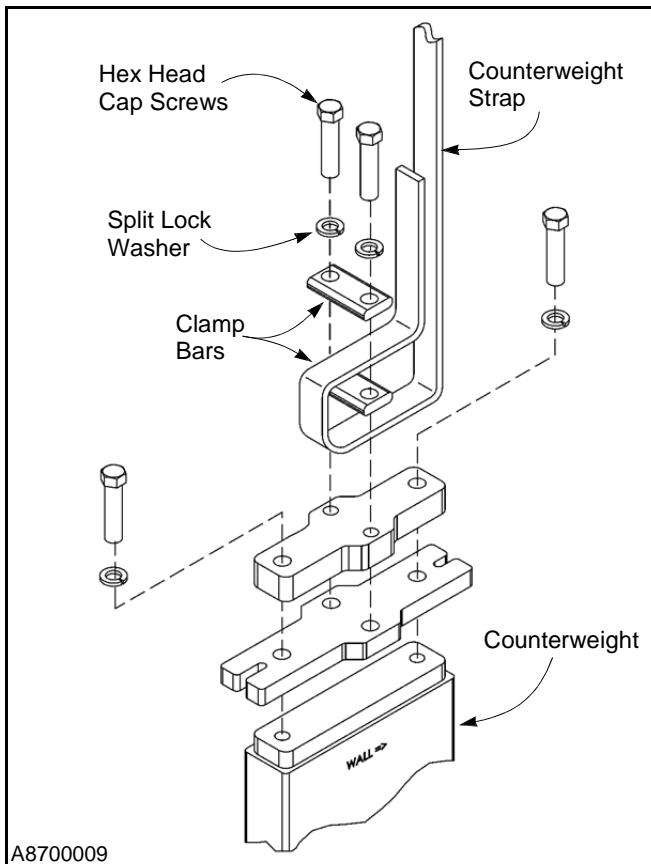

Figure 49
13. Attach the new strap to the counterweight by routing the strap through the clamp bars in the same manner as the old strap. Tighten the hex screws to clamp the strap to the weight. (See Figure 49)